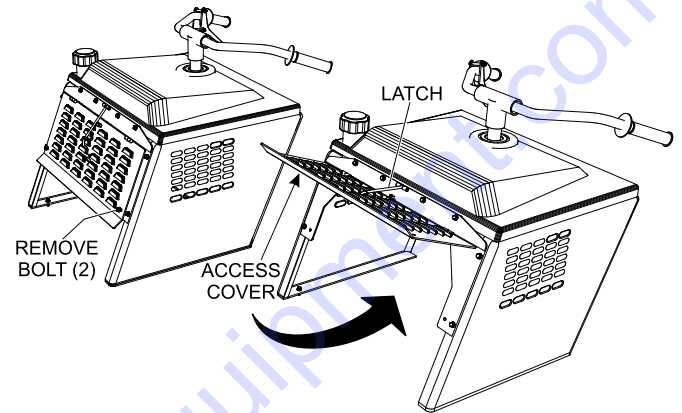

Figure 38. Access Cover
6. Remove the two bolts that secure the access cover (Figure 38) to the buggy frame.